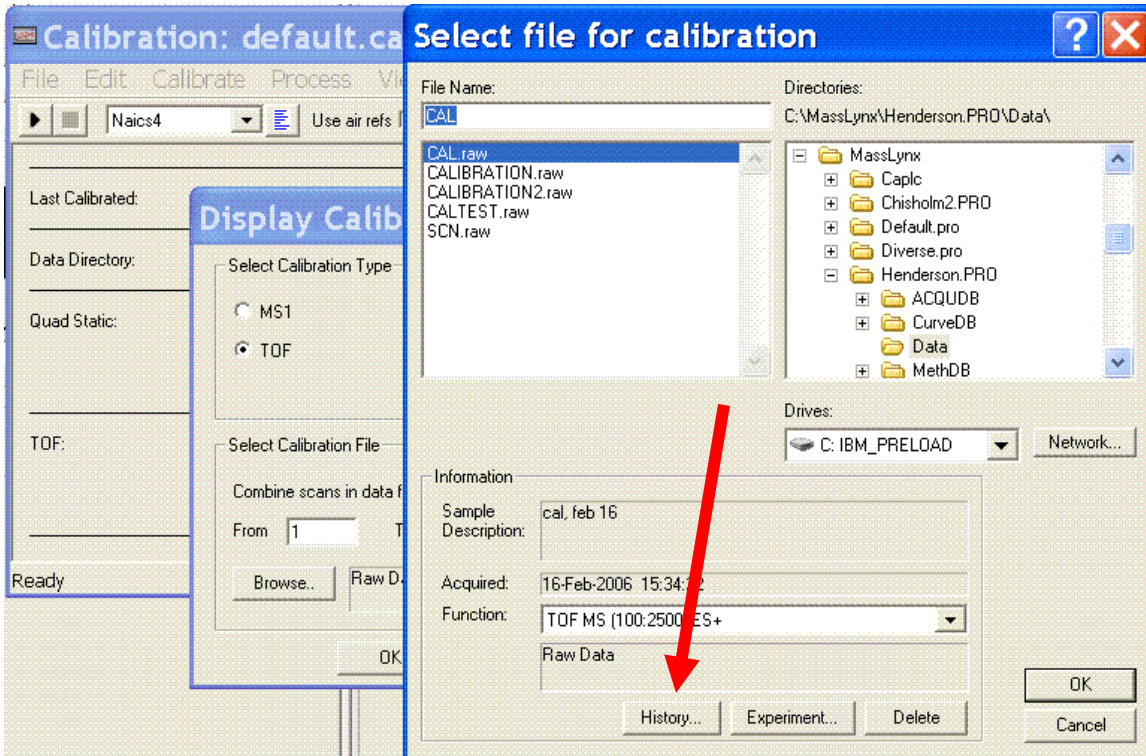

Figure 16
10. Select the spectrum that you just saved in step 5. Click on “History...” (Figure 16).